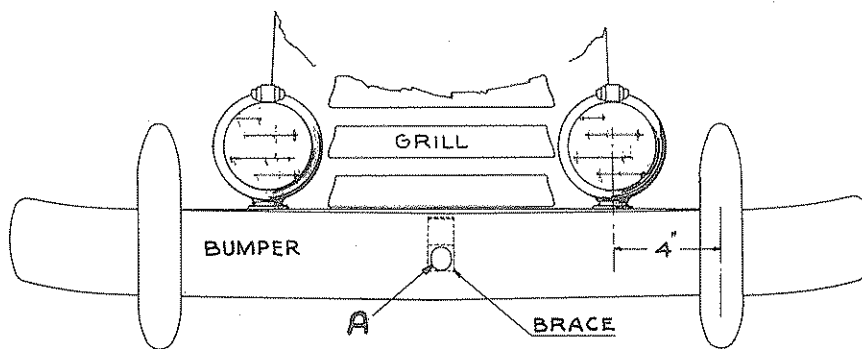
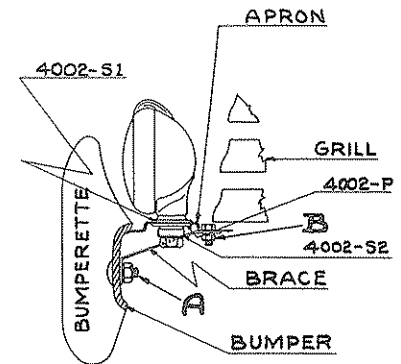

FIG. 1
FIG. 2
1. Spot line on apron (Fig. 2) four inches (4") from bumper guard center line as indicated in Figure 1.
2. At center of this line, where it crosses raised head of apron, spot and drill  $\frac{1}{2}$ " hole. (See Figure 2).
4. Remove nuts from bolts A (Figs. 1 and 2) and B (Fig. 2). Place brace (Nash Part 3119219) over bolts and replace the nuts, drawing up tightly. (See Figure 2).